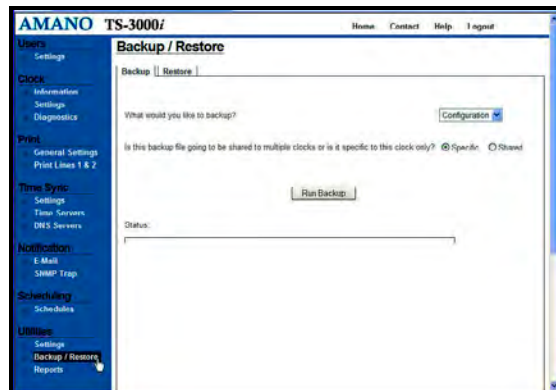

Figure 4-23. Backup Utility.
- Step 1. Click on the **Backup/Restore** link under Utilities, and the **Backup** tab screen will appear (see *Figure 4-23*).